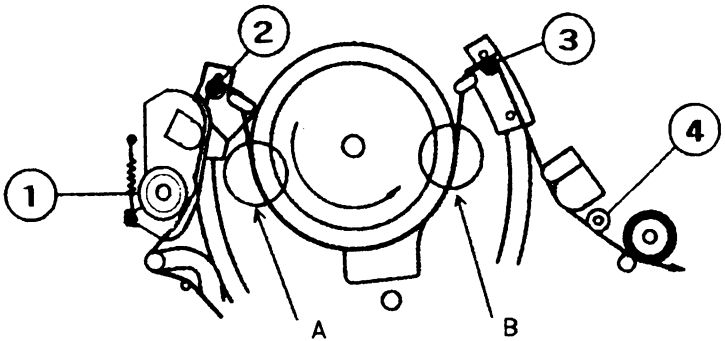

Fig. 1
2. Load a blank tape and set the VCR to the PLAY mode. Check the tape transport at points "A" and "B" as shown in Fig. 1.